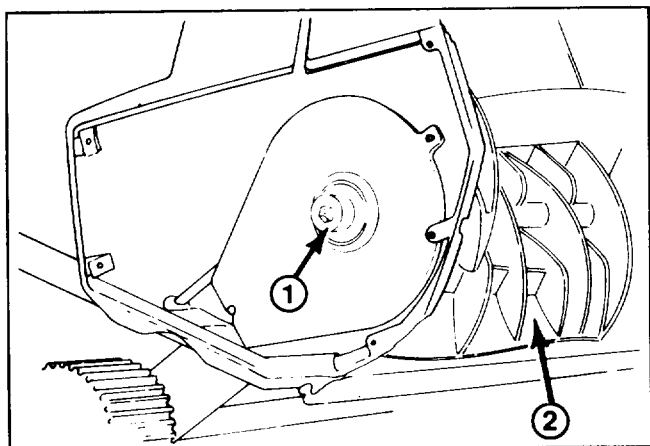

Figure 11
2. Using a 3/8" Allen wrench, turn the rotor shaft clockwise (left hand thread) while holding the rotor (Fig. 11). The Allen wrench may need to be tapped with a hammer to loosen the rotor shaft. Wedge a stick or hammer handle in rotor to prevent rotation.